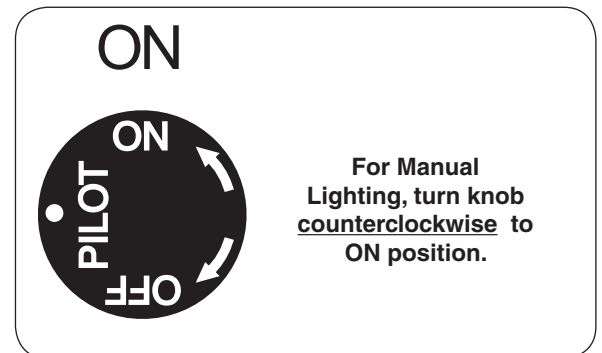

Fig. 37-3 Control knob detail (ON)
2. Turn the gas control knob counterclockwise to **ON** (Fig. 37-3) to ignite the burner. The valve will open and the burner will light.